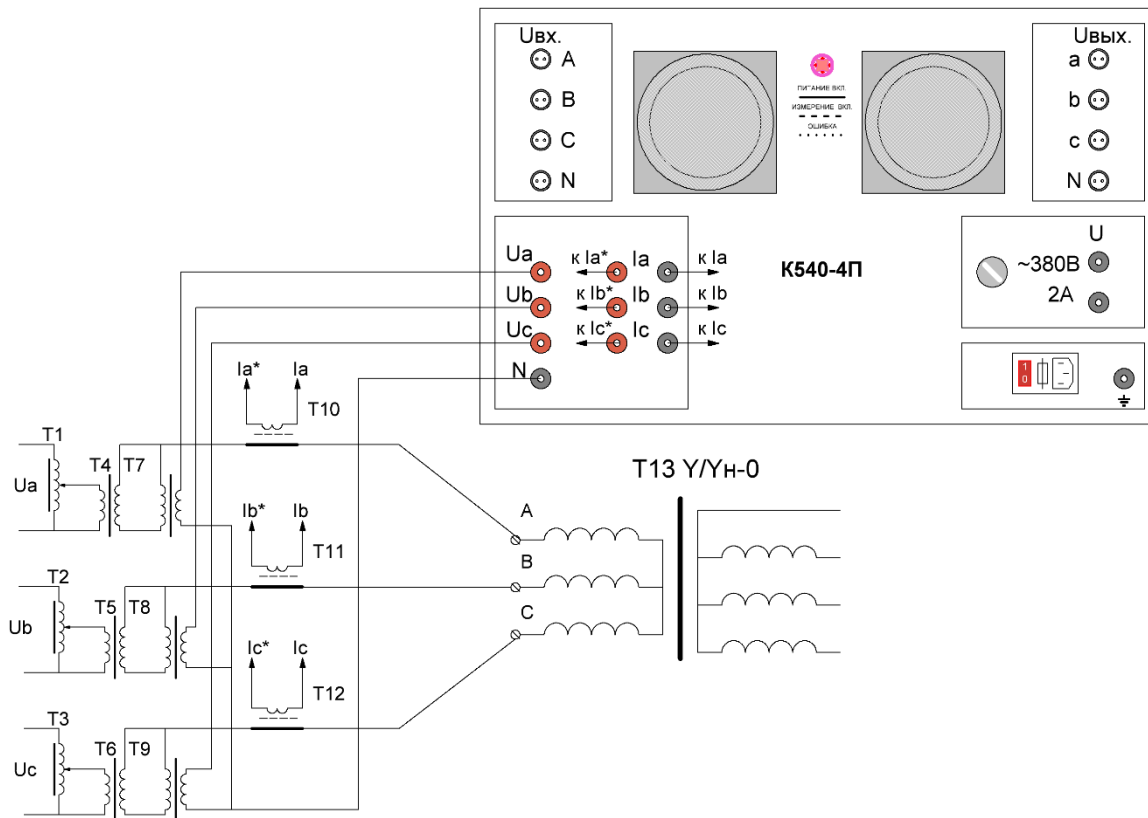

Figure 6.9
At current over 10A and voltage over 400V, such measurements require assembling the circuit in Figure 6.9, while observing the phasing of current/voltage transformers.
6.1.4.3 Disconnect the test transformer from excitation circuit (Figure 6.9, points A, B, and C).
6.1.4.4 Supply power to T1, T2, T3 transformers (Figure 6.9) and activate the “Start” field. At that, AB, BC, and AC lines show linear/phase drive voltage, while “ $K\phi$ ” line shows the form factor of this voltage.